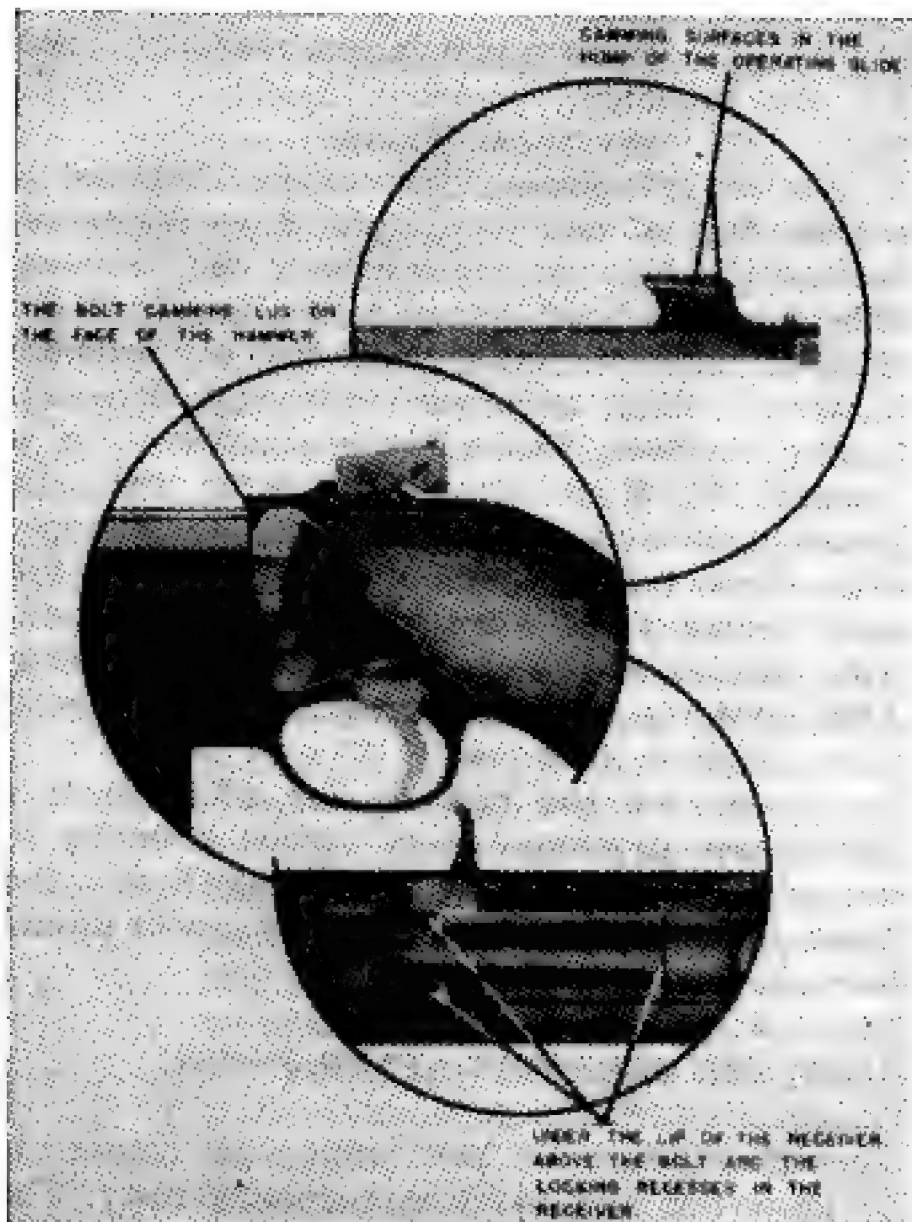

Figure 43b. Points on which to apply rifle grease.
- (3) Cocking cam on rear of bolt and firing pin tang recess.
- (4) Contact surface of barrel and operating slide.
- (5) Operating slide spring guide.
- (6) Operating slide handle grooves on side of the receiver.
- (7) Operating slide grooves in barrel.
- (8) Contacting surface of receiver and operating slide.
- (9) Cammed surfaces in the hump of the operating slide.
- (10) Piston.
- (11) Magazine catch and magazine catch plunger.
- (12) Operating slide stop.
*e.* Use rifle grease if the carbine is exposed to a great deal of rain or to spray from sea water, because the bolt may occasionally fail to open. This is caused by the friction resulting from the effect of the water and the fact that any ordinary lubricant is likely to be washed away from certain bearing surfaces. Under these conditions, it is essential that such surfaces be coated with rifle grease which resists the action of the water. Apply rifle grease to the parts shown in Figure 43b after wiping them clean and dry with a cloth. Rifle grease is not normally applied to other parts. After applying rifle grease, work the parts several times to spread the grease.
- (2) *Avoid excessive friction.* If the carbine shows signs of excessive friction due to lack of lubrication, apply oil to the parts that need it. If this friction is the result of dirt and there is no time to clean the carbine, use an extra amount of oil in the places needed. Friction is indicated if the empty cartridge cases are being ejected to the right rear or if the action of the bolt is sluggish. Apply oil at the first opportunity, as failure to chamber and eject will occur if the condition is not corrected.
- (3) *Use extra care under severe conditions.* If the carbine is to be exposed to severe conditions of rain or salt water, apply rifle grease. The points on which to apply this grease are shown in Figure 43b.